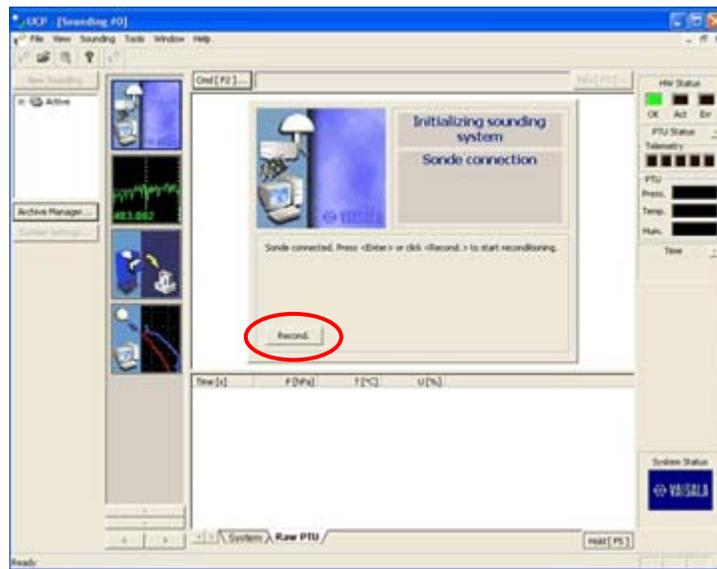

Figure 7
- 9) Once sonde is connected, press “Recond.” to start reconditioning (see Figure 7). Wait 3 minutes until reconditioning finishes.